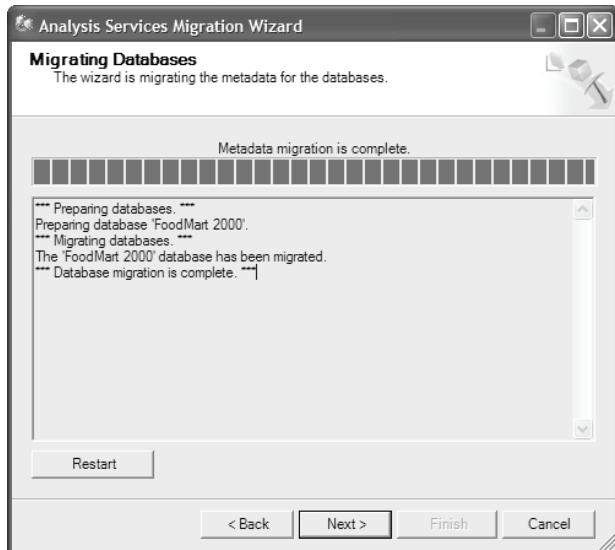

Figure B.8 The Migration Wizard converts the SSAS 2000 database to its UDM counterpart.
5. The Migration Database step (Figure B.8) is the workhorse of the migration process. Here, the wizard converts the SSAS 2000 metadata to its UDM equivalent. Once the migration process has completed, click Next to advance to the Completing the Wizard step. Review what the Migration Wizard has accomplished and click Finish to close the wizard.